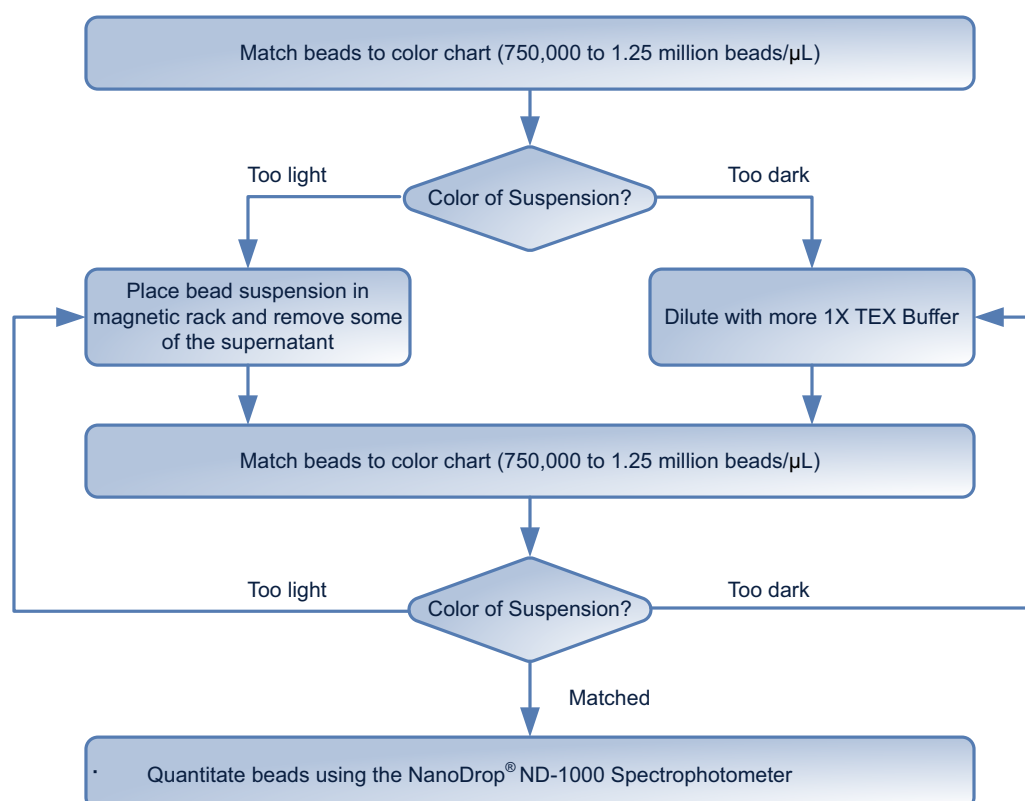

Figure 34 The SOLiD™ Bead Concentration Chart workflow.
5. Adjust the volume of beads so that the color of the bead solution matches a color in the optimal range (750,000 beads/μL to 1.25 million beads/μL; see Figure 34 for the workflow).